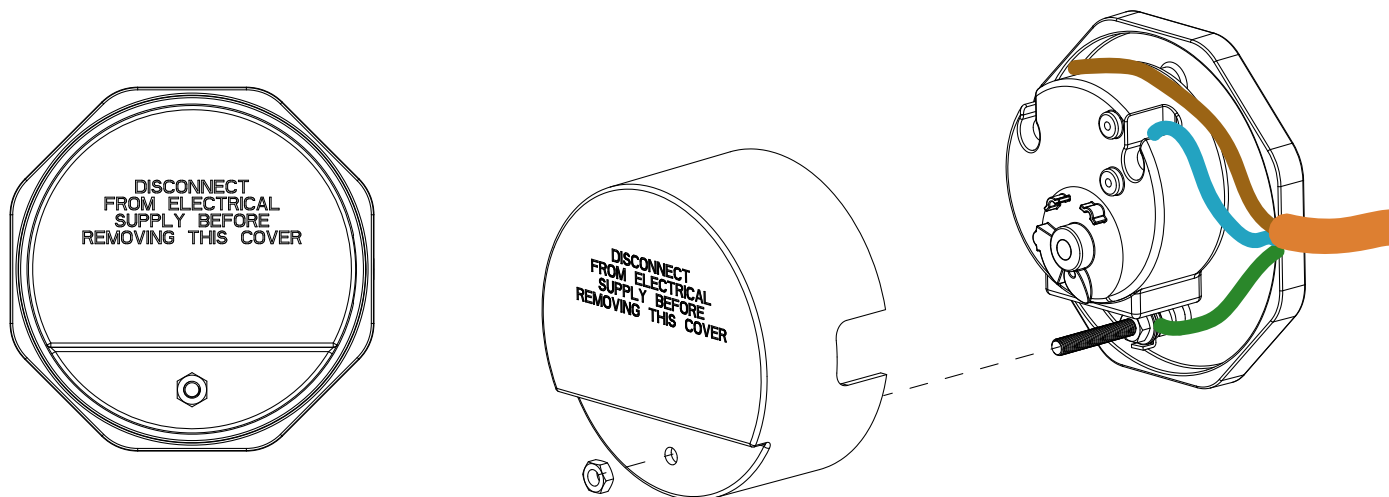

Fig. 78 : Remove Immersion Cover
4. Using an appropriate sized spanner remove the immersion cover from the immersion. See Fig. 78.